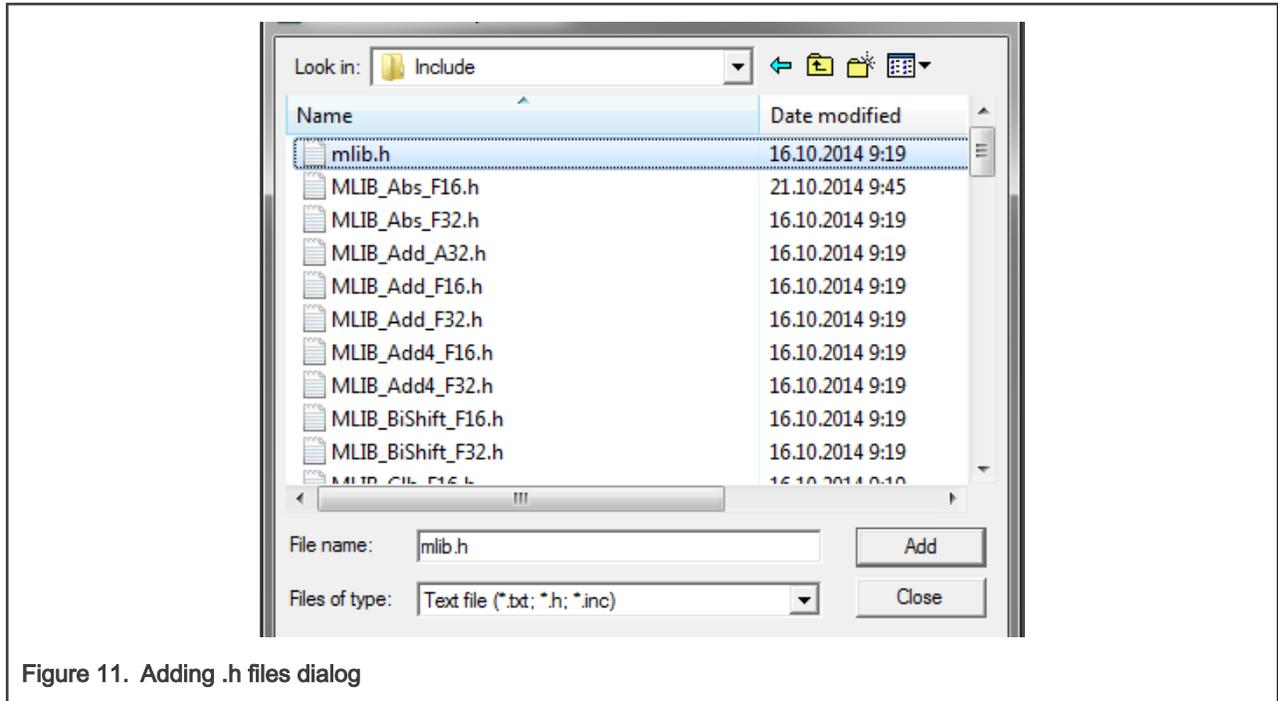

Figure 11. Adding .h files dialog
4. Navigate into the library installation folder C:\NXP\RTCESL\CM0\_RTCESEL\_4.7\_KEIL\MLIB\Include, and select the *mlib.h* file. If the file does not appear, set the Files of type filter to Text file. Click Add. See Figure 11.